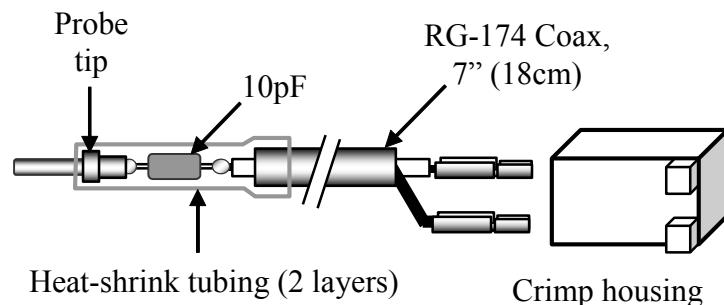

Figure 6-14
- In the bag labeled **MISCELLANEOUS** you'll find the components for the frequency counter probe (Figure 6-14). These components include a 10 pF axial-lead capacitor, two crimp pins, a 2-pin housing, and a 1-pin male connector (probe tip).
Insert the pins into the crimp housing as shown in Figure 6-14. They should snap into place. Each crimp pin has a small tab on the back that latches into a hole in the housing.